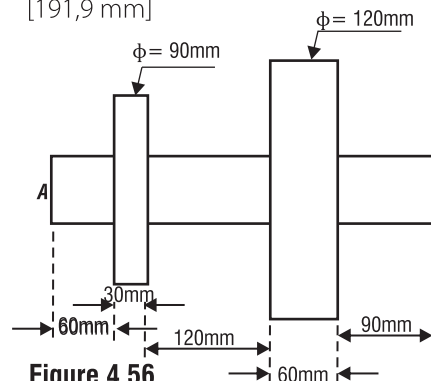

Figure 4.56
7. A steel axle has a diameter of 60 mm and is 360 mm long. Two copper discs are mounted on the axle as shown in **Figure 4.56**. Calculate the distance of the centre of mass from point A. [191,9 mm]